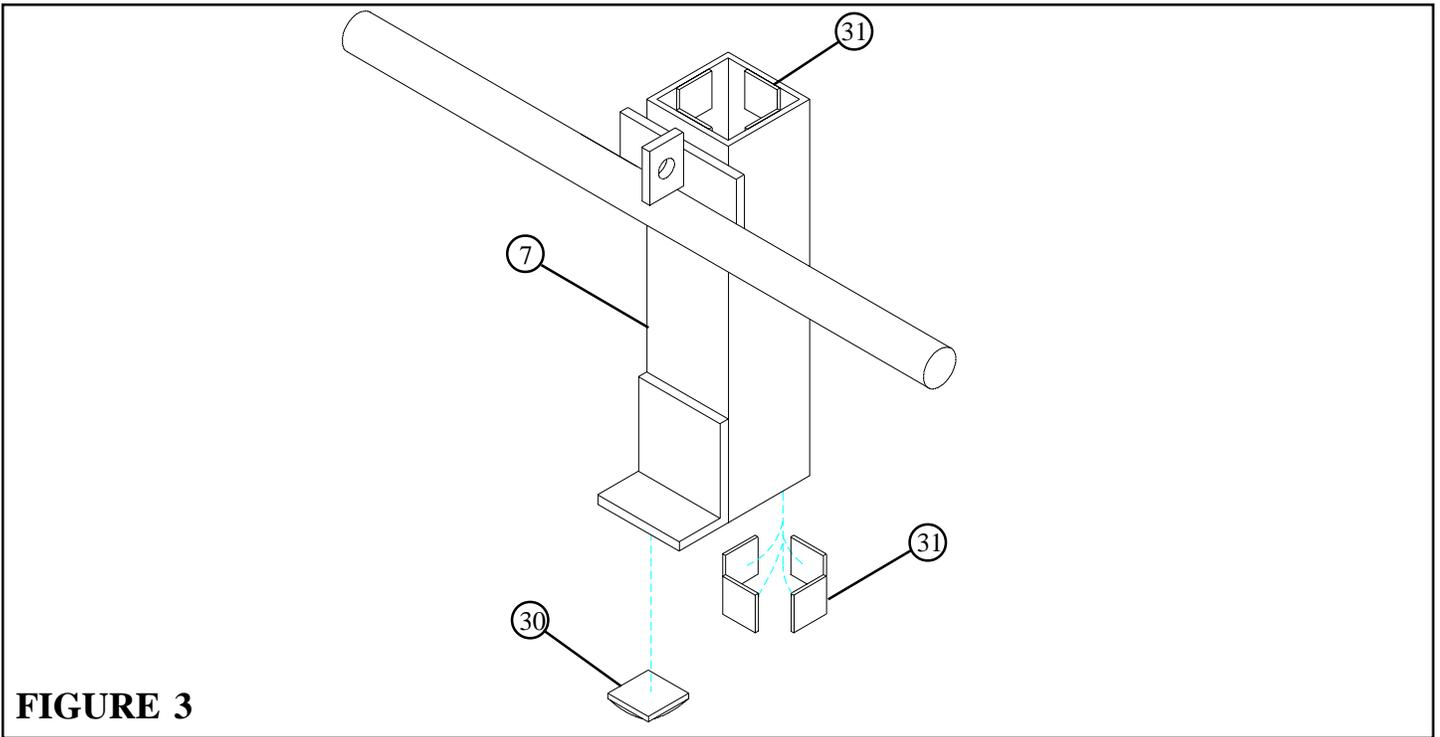

FIGURE 3
- Apply eight 1” SQ. GLIDES (31) to the inside of the CARRIAGE (7) as shown in FIGURE 3.
- Attach one 1-1/4” SQ. RUBBER BUMPER (30) to the bottom of the CARRIAGE (7) as shown in FIGURE 3.